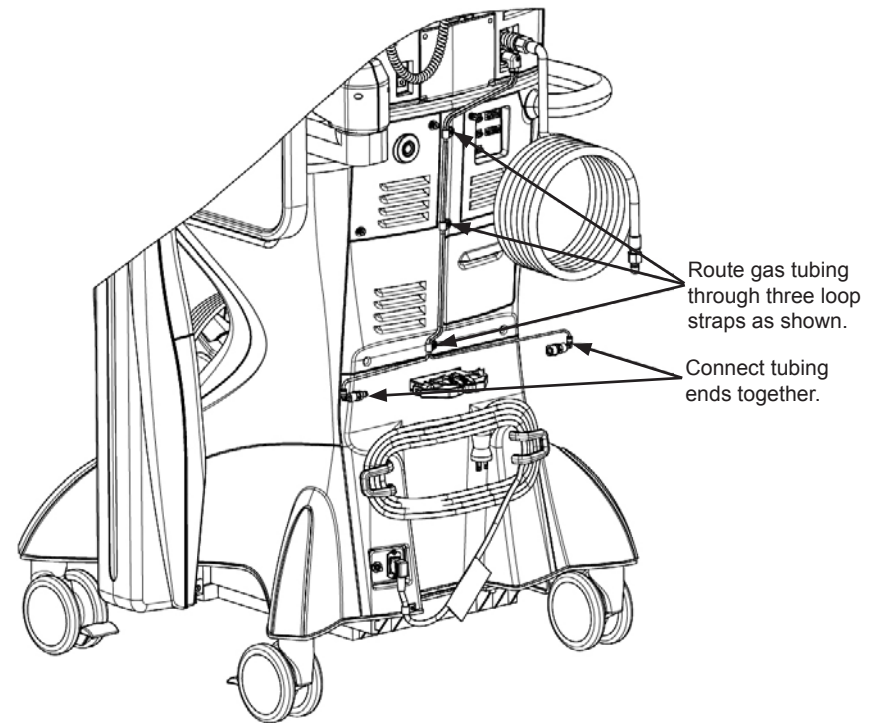

Figure 7-14. ISPAN Gas Tubing Installation
33. Install ISPAN gas tubing as shown in Figure 7-14. Connect ends of tubing together. Place gas regulators into accessory drawer on rear of system.